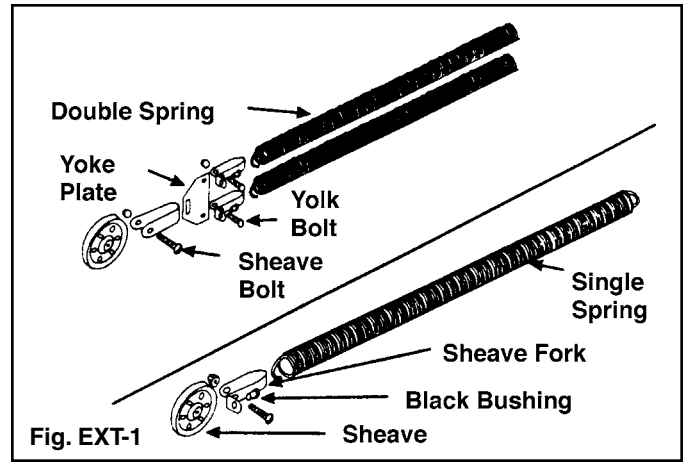

Fig. EXT-1
Step 1: Some doors will be supplied with two springs and some will have four. Assemble springs with sheaves on the floor. A 3/8" x 1-1/4" bolt and nut are used to attach the sheave. (FIG. EXT-1)